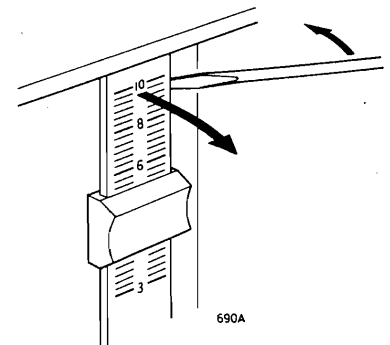

Fig. 4
- Insert a screwdriver at the top between the panel of the slide control and the front panel (see Fig. 4).